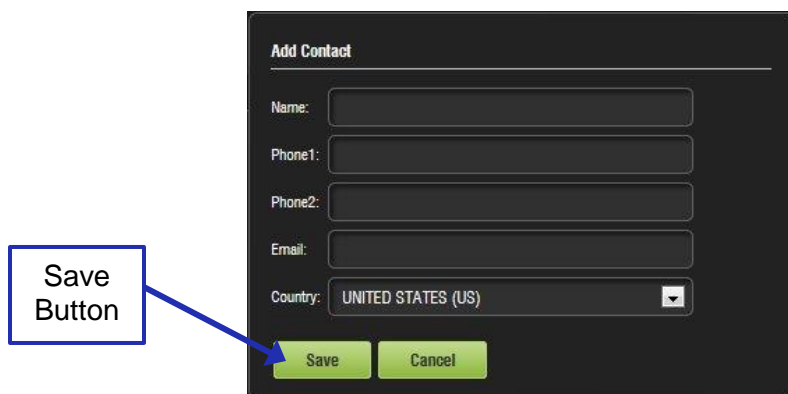

Figure 177: Add Contact Window
- The Add Contact window will appear (Figure 177).
- Fill out the appropriate information and click Save or Cancel to cancel the operation (Figure 177).